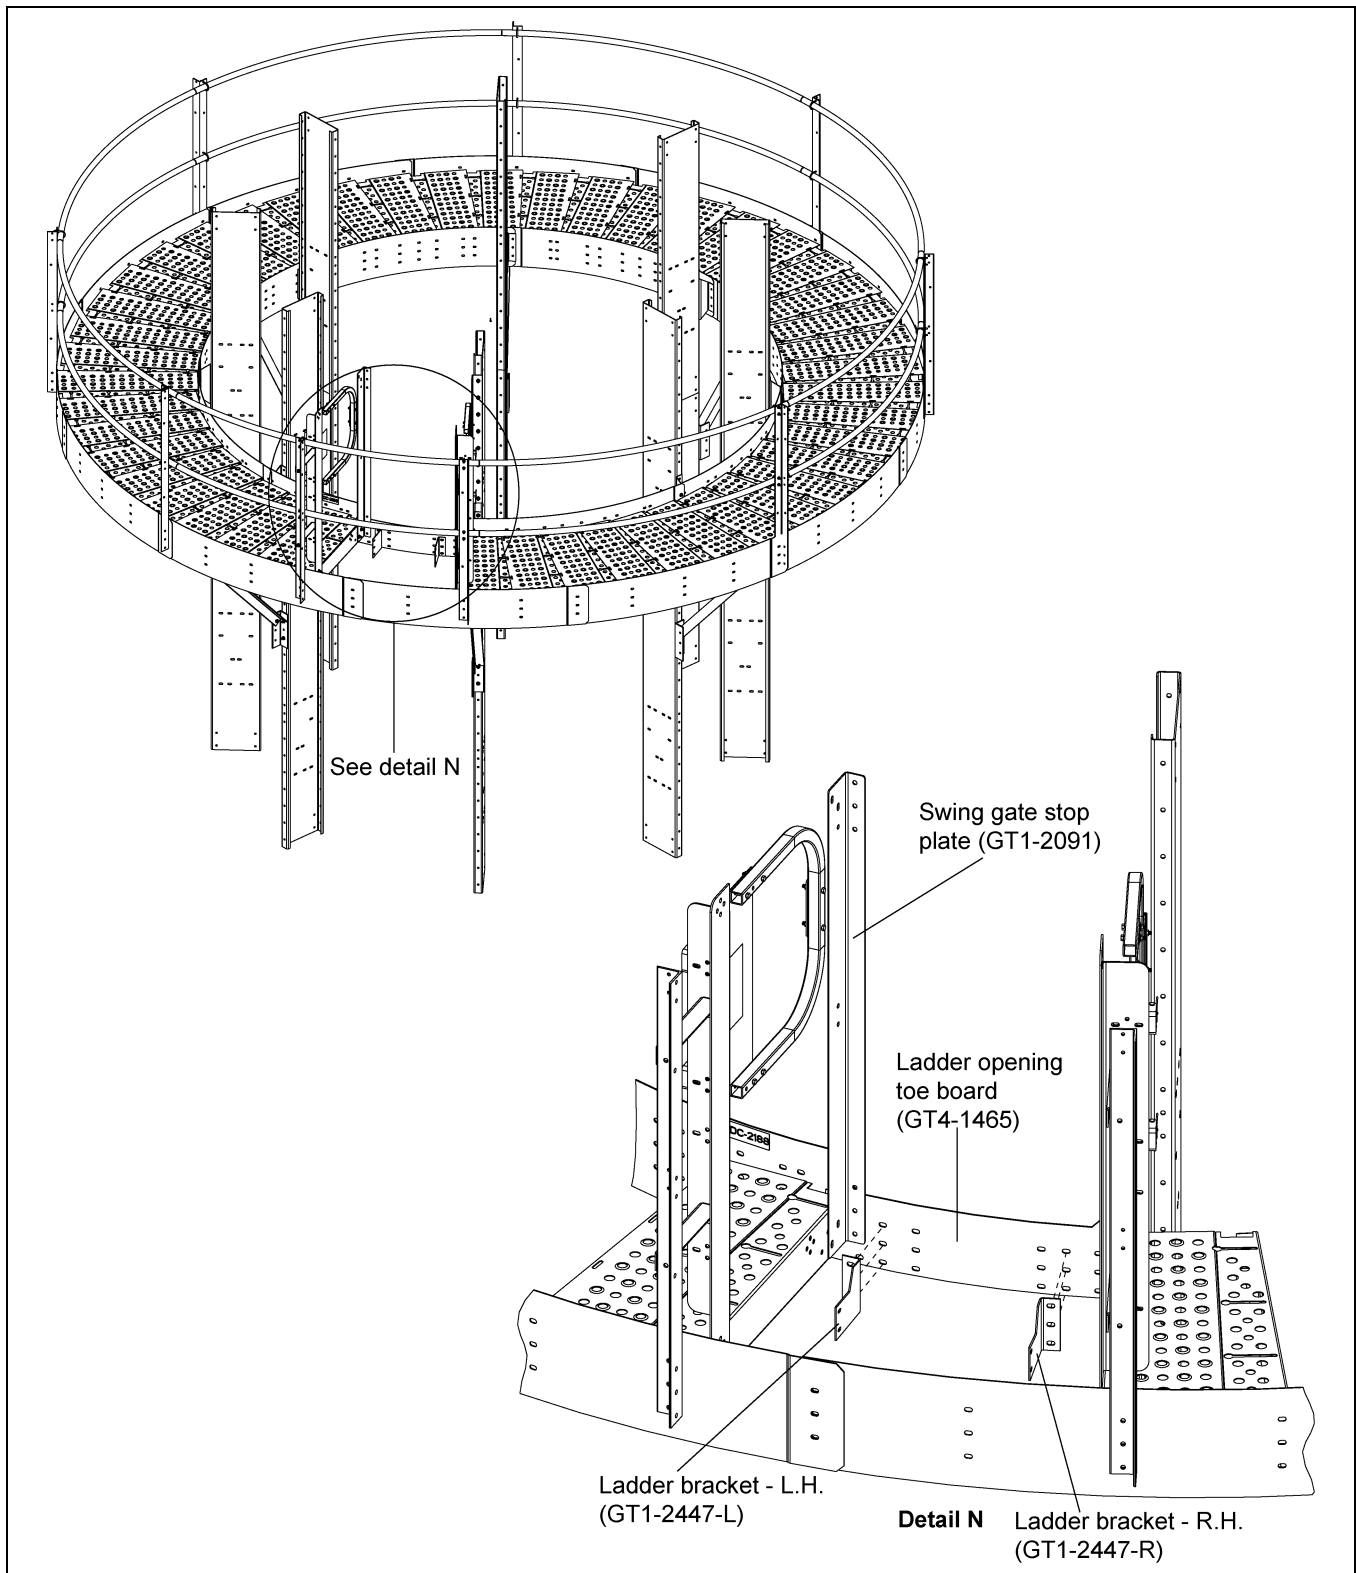

Figure 4Y
1. Install the ladder brackets (GT1-2447-L and GT1-2447-R) to the ladder opening toe board (GT4-1465) using 3/8"-16 x 1" JS grade 8 or grade 8.2 bolts (S-7485) and 3/8"-16 ZN grade 5 nuts (S-968). (See Figure 4Y.)